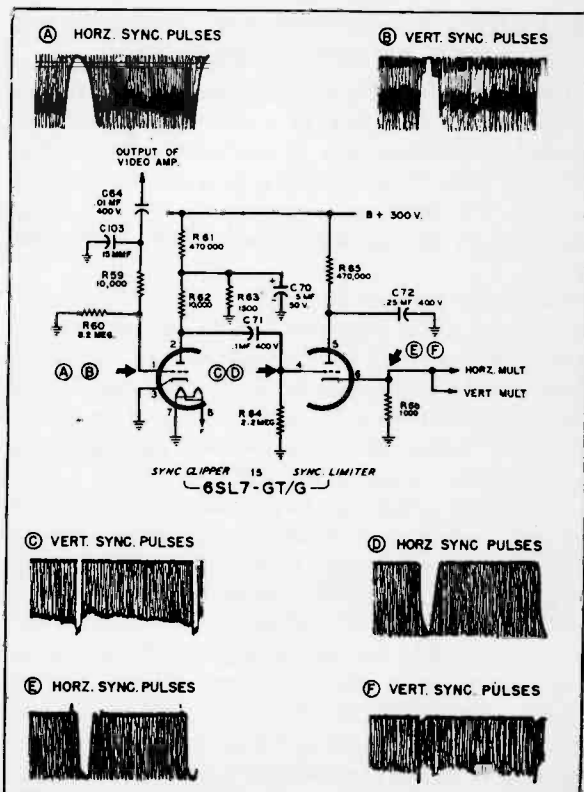

Figure 13. Sync Amplifier and Limiter
The sync amplifier and sync limiter (see figure 13) share a type 6SL7 tube (15). The first section amplifies the sync signal obtained from the output of the video amplifier tube (12) through coupling capacitor C64 and isolating resistor R59. The sync amplifier is self-biased by resistor R60 and operates at a low plate voltage obtained from resistance dividing network R61 and R63. The use of low plate voltage enables this stage to clip off video appearing on the sync signal.